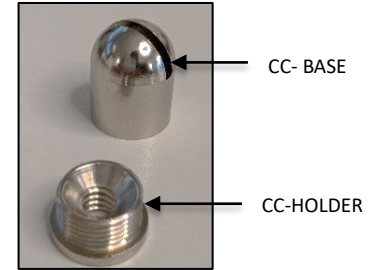

FIG. 10 - CEILING COUPLER ASSEMBLY
2. Dis-assemble the CEILING COUPLER into two components CC-BASE and CC-HOLDER as shown in FIG. 10.